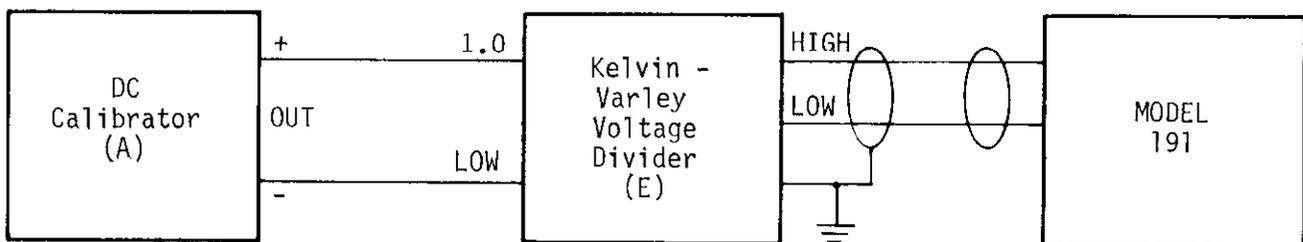

FIGURE 3-1. Test Circuit For 200mV And 2V Accuracy Check.
- b. Disconnect test leads at the DC calibrator (A) and short them. Depress the Model 191 NULL button. Verify a display indication of 00.000mV ± 0.001 mV flashing.
c. Connect the DC calibrator (A), Kelvin-Varley Voltage Divider (E) and Model 191 as shown in Figure 3-1. Set the voltage divider (E) for .0190000 output.
d. Temporarily disconnect the test leads from the DC calibrator (A) and short them. Depress Model 191 NULL button for a display indication of 00.000 ± 0.001 mV flashing.
e. Reconnect the DC calibrator (A) and set to an output of +10.00000V.
f. Verify that the Model 191 reading is between +189.978 to +190.022mV. Note that the allowable reading includes a 6 digit allowance for the uncertainty of the DC calibrator (A) and Voltage Divider (E).
h. Select the 2V range and release the NULL button. Set the Kelvin-Varley Voltage Divider (E) to .190000 output.
i. Verify that the Model 191 reading is between +1.89981 and +1.90019V. Note that the allowable reading includes ± 4 digits for DC calibrator (A) uncertainty.